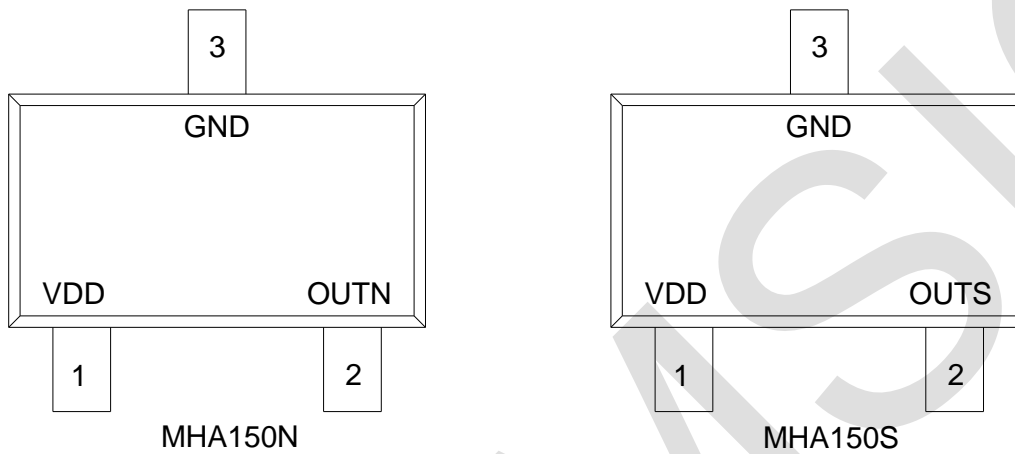

Figure 3: SOT23 pin definition (top view)
2. Recommended reflow profile for Pb free process is shown in Figure 3. The time duration of peak temperature (260°C) should be limited to 10 seconds.